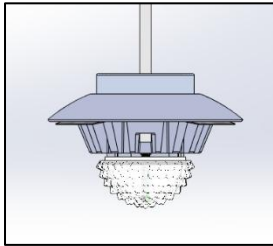

FIG.2 REFLECTOR ASSEMBLY
1. REFLECTOR ASSEMBLY with CORD attached. (shown in FIG. 2)